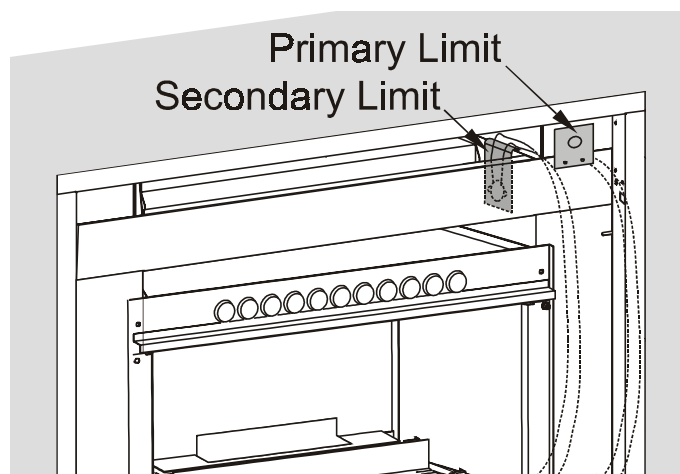
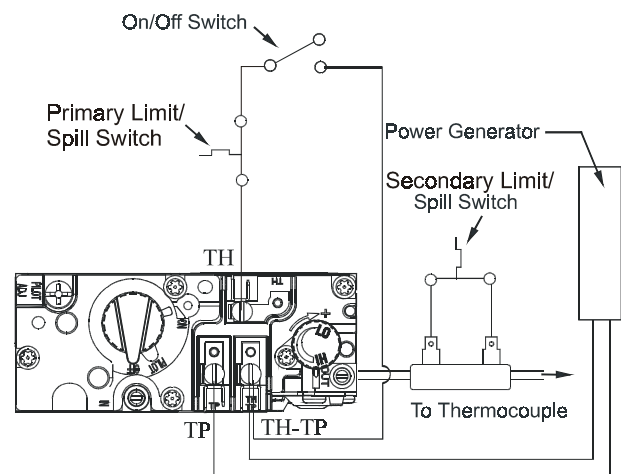

Figure 20. *Installing the secondary spill switch, also see figure 24c.*
Figure 24c. Honeywell VS8510E gas valve used on the EP28-S2.
This installation is not complete unless both the primary and secondary limit switches are wired into the safety circuitry as outlined in the following instructions and in figure 24c.
9. Reconnect the primary limit switch as shown in figure 24c. Install the secondary spill switch in its location on the right side of the insert, centred in its location as shown in figure 20. Drop the wires between the insert and the shell and connect the spill switch to the thermocouple-gas valve circuit as shown in figure 24c.